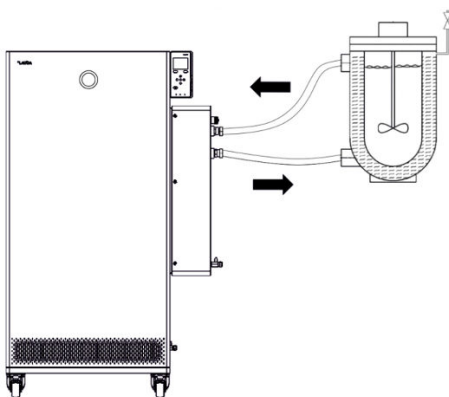

Fig. 38: Application with vent valve
- A vent valve Fig. 38 can significantly simplify the aeration process. For this purpose, periodically open the valve carefully and allow gas/air to escape until liquid escapes from the valve, and then close the vent valve again. Collect the liquid in a suitable container. Operate the valve again at regular intervals until no more air escapes.